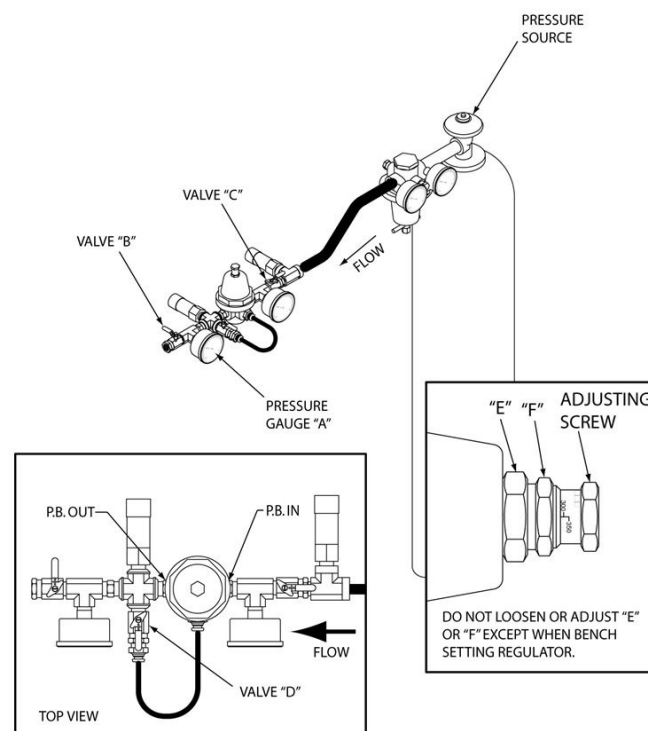

Figure 20
2. If the desired pressure setting is not within the regulator's range the regulator will have to be replaced as shown in Figure 20.
- Connect the pressure control regulator to a nitrogen pressure source as shown in Figure 20.